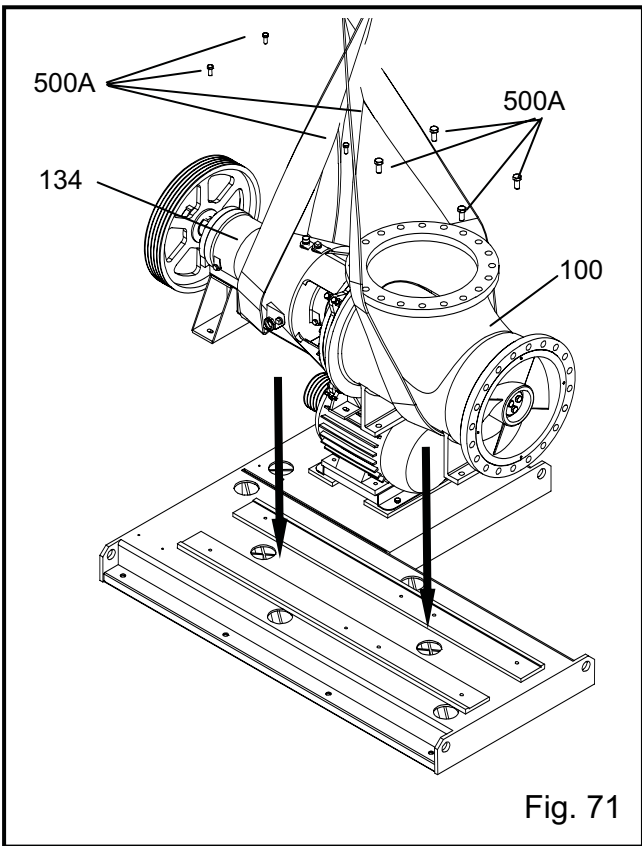

Fig. 71
around the bearing housing (134) and elbow (100), see Fig. 71.